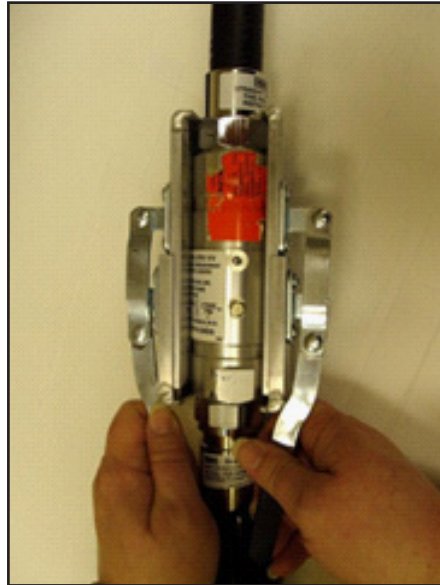

Figure 4
- Align the dowel pin in the bottom half of the breakaway with the dowel pin guide located in the top half of the breakaway. When the dowel pin and guide are aligned, continue squeezing tool grips until the breakaway halves come together. See Figure 4